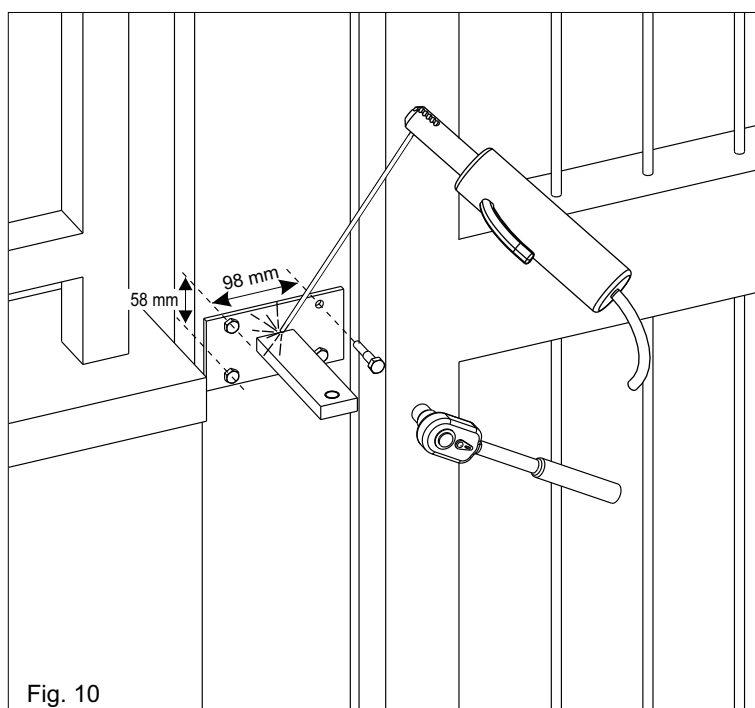
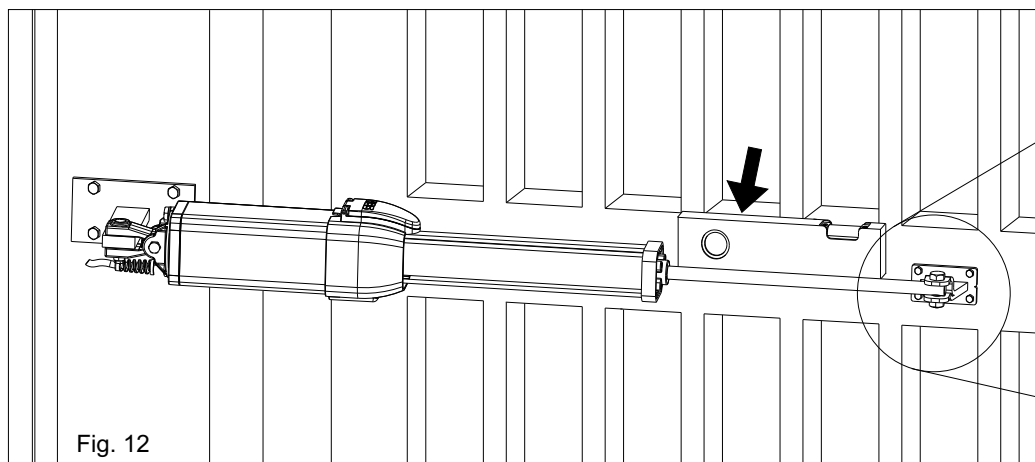

Fig. 10
Fig. 12
According to the chosen opening type (inside or outside) and according to the chosen max. rotation of the leaf (see page 17) the bracket must be first cut respecting the mesurment "a" on pag. 17 and than welded as in fig.10.
The support must be positioned so that the operator is in perfect horizontal position (Fig. 10, Fig.12).
- 4) Position the operator perfectly horizontal and mark the position of the front fixation (Fig. 12)